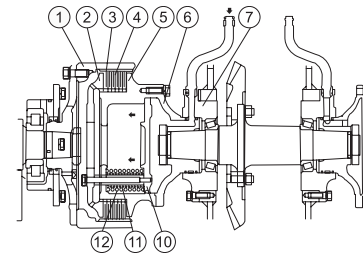

Figure 3-32
When the steering lever is pulled, the pressure oil from the steering control valve enters the inner cavity of the inner drum (6) (See Figure 3-32) to push the piston (10), bolt and platen (2) to move to the arrow direction (Overcome the pressure of the big and small springs), so as to disengage the friction connection between the inner tooth (4) and the outer friction disk (3), to stop the outer drum (1) from rotating, so as to cut off the power transmission.